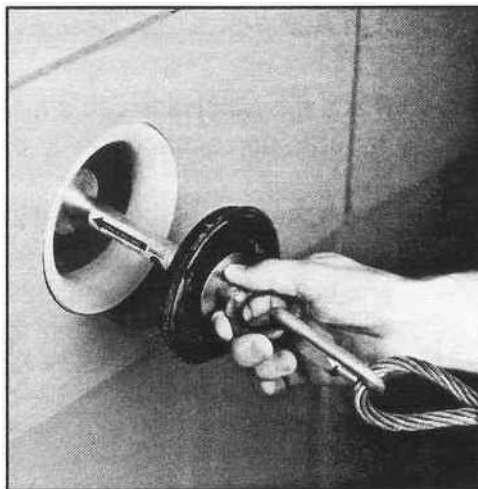

Figure 1: ATTACH THE MISSILE
3. Attach the missile to the end of the winch line using the connector supplied with the winch line blower. (See Fig. 1) The large metal disc must be forward in the direction of winch line travel (as shown by the label on the missile).